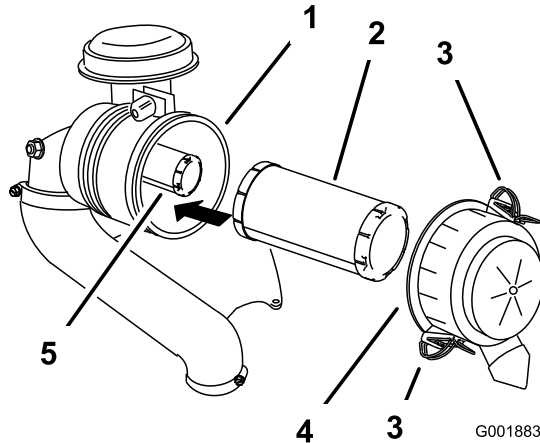

Figure 26
3. Release the latches on the air cleaner and pull the air-cleaner cover off the air-cleaner body (Figure 26).
5. Gently slide the primary filter out of the air-cleaner body (Figure 26).
2. If you are replacing the safety filter, carefully slide it into the filter body (Figure 26).
3. Carefully slide the primary filter over the safety filter (Figure 26).
Note: If you are replacing the safety filter, carefully slide it into the filter body (Figure 26).
Note: Carefully slide the primary filter over the safety filter (Figure 26).
4. Install the air-cleaner cover with the side indicated as **up** facing upward and secure the latches (Figure 26).